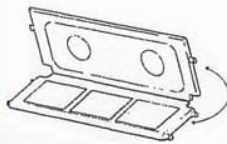

Figure 3
3. Bend eight (8) treads/risers as shown in Figure 3. Fit into slots of stringers aligning knobs on treads/risers with holes in stringers (Figure 4). Tap and lock into place similar to top platform in Step 2 (Details A & B). Make certain knobs protrude through stringers and lock firmly in place. Repeat for all treads/risers on both sides/stringers. Make certain the "warning signs" face outward and anti-skid surfaces upward.